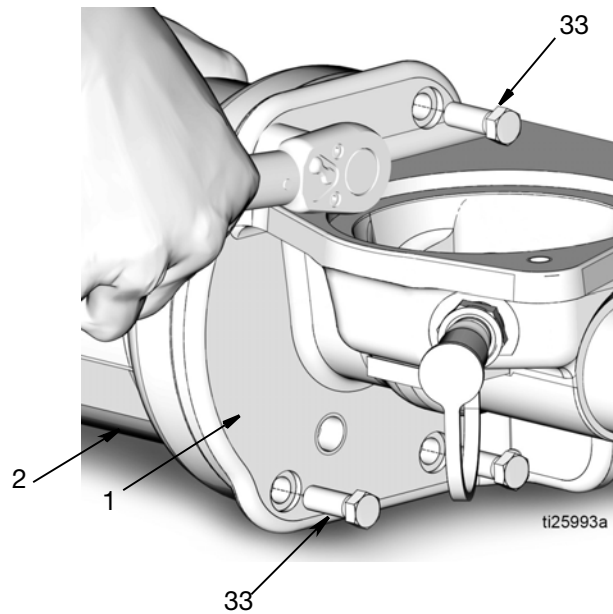

FIG. 17
14. Use a 3/8 inch socket to remove the 4 bolts (33) holding the air cylinder (2) to the pump base (1) (FIG. 17). Remove air cylinder from the pump base.